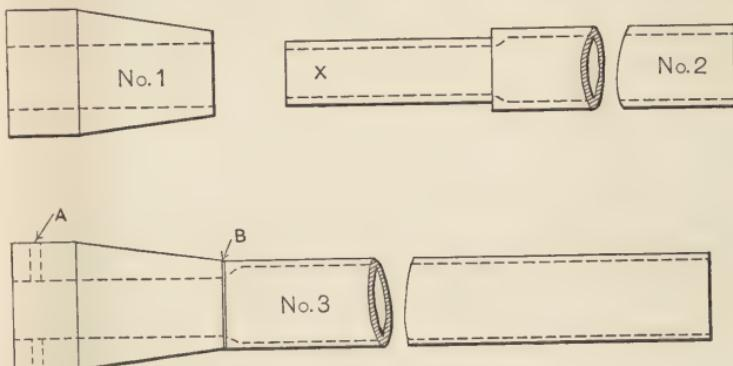

Fig. 3. Pieces to be Brazed.
**Directions for Brazing.**—Fig. 3 shows a piece of steel tubing and a machine steel piece to be brazed together. The hole in No. 1 should be  $\frac{1}{64}$ -inch larger than the swaged end *X* of No. 2. It should be placed